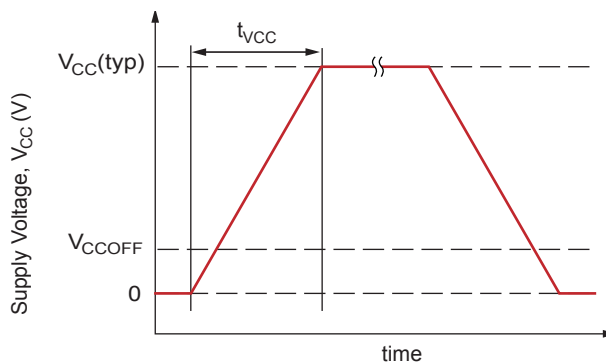

Figure 4. Definition of  $V_{CC}$  Ramp Time,  $t_{VCC}$
**$V_{CC}$  Ramp Time** The time taken for  $V_{CC}$  to ramp from 0 V to  $V_{CC}(typ)$ , 3.3 V (see figure 4).
**$V_{CC}$  Off Level** For applications in which the  $V_{CC}$  pin of the A1318 or A1319 is being power-cycled (for example using a multiplexer to toggle the part on and off), the specification of  $V_{CC}$  Off Level,  $V_{CCOFF}$ , determines how high a  $V_{CC}$  off voltage can be tolerated while still ensuring proper operation and startup of the device (see figure 4).